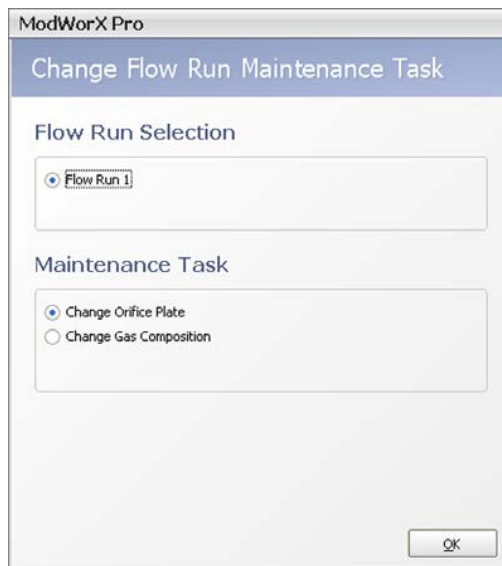

Figure 9.6
1. If Change Gas Composition is not displayed in the Maintenance Task field at the top of the Maintain Flow Run screen, click on **Change Task**. The Change Flow Run Maintenance Task dialog will appear (Figure 9.6).